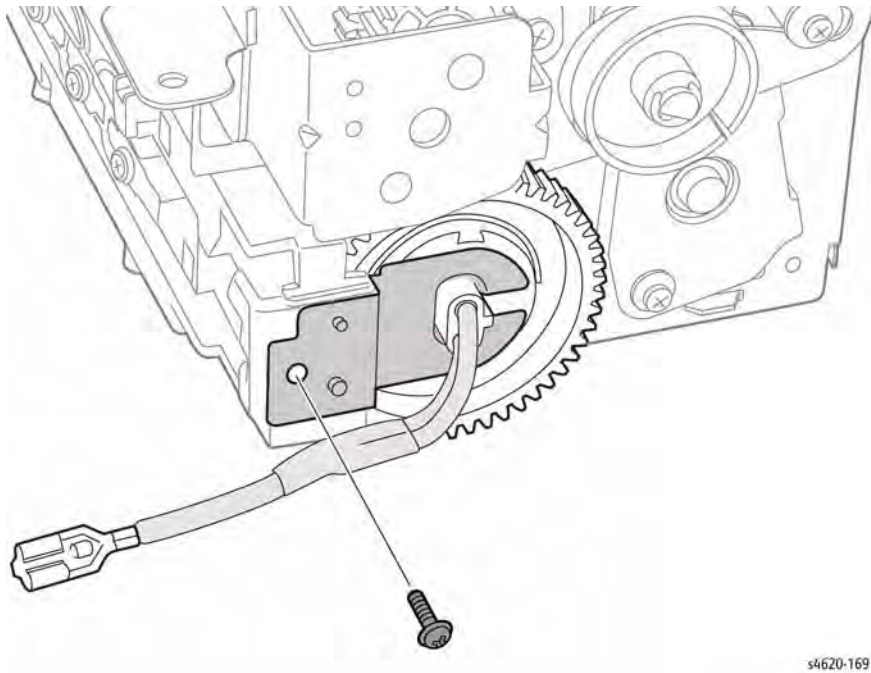

Figure 6 Remove the right side lamp bracket
8. Remove 1 screw (Black, plastic) that secures the lamp bracket to the Fuser, Figure 6.